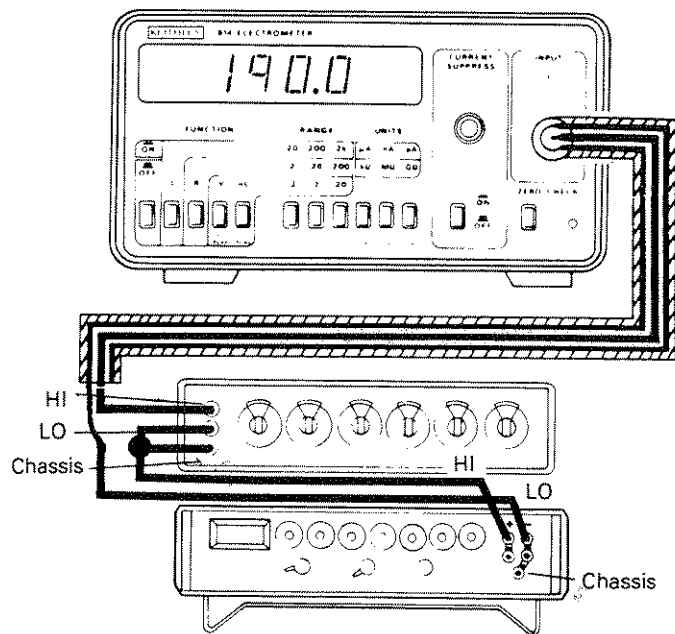

Figure 4-2. Current Verification
1. Select Current (I), 200 $\mu$ A range and depress ZERO CHECK
2. Configure the DC calibrator (Item A), decade resistor (Item E) and the Model 614 as shown in Figure 4-2.